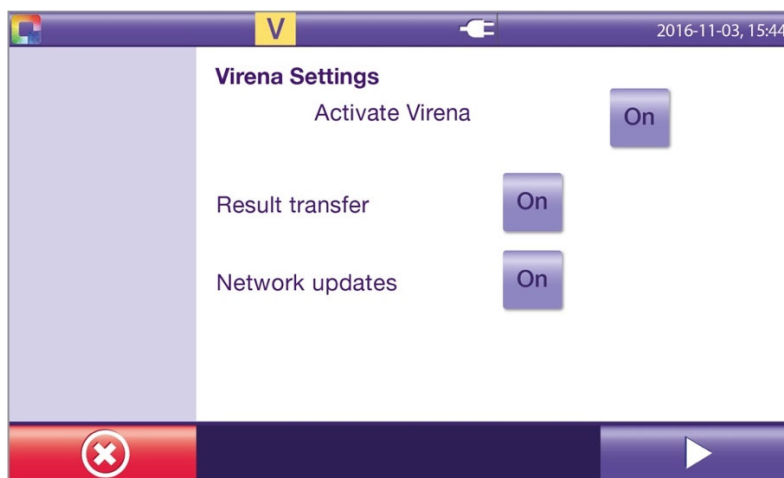

Figure 27
- To change the displayed setting, touch the **On/Off** icon  (Figure 27).